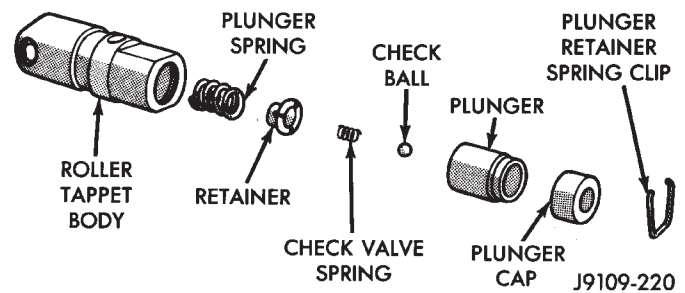

Fig. 27 Hydraulic Roller Tappet Assembly
DISASSEMBLY (FIG. 27)
(2) Replace tappets that are unfit for further service with new assemblies.
(3) If plunger shows signs of scoring or wear and valve is pitted, or if valve seat on end of plunger indicates any condition that would prevent valve from seating, install a new tappet assembly.
(4) Assemble tappets (Fig. 27).